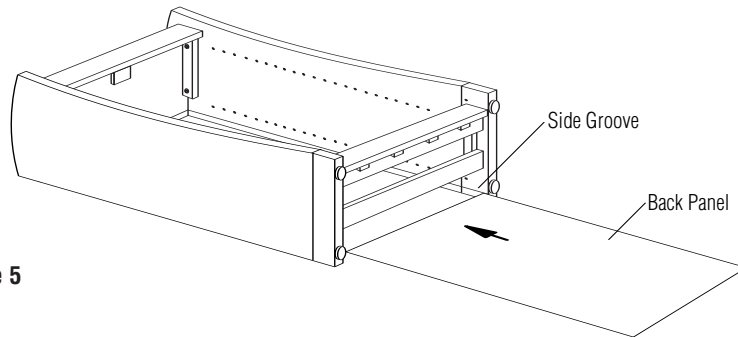

Figure 5
9. For optional back panel, slide the back panel into the side grooves of the assembled units and slide into top groove. Insert $\#8 \times \frac{5}{8}$ " screws into the groove directly below the back panel to keep the panel raised off the floor (Figures 5 & 6).